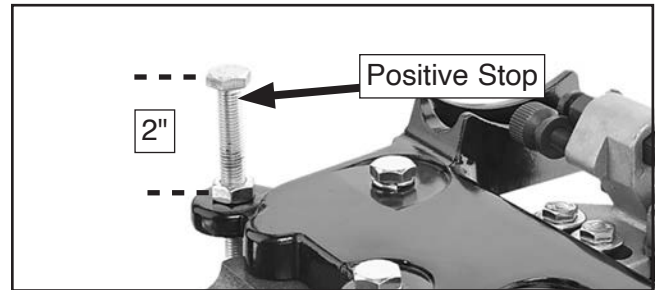

Figure 22. Positive stop installed.
3. Thread (1) M8-1.25 hex nut onto the M8-1.25 x 80 positive stop hex bolt, then thread the bolt into the trunnion support bracket so it protrudes 2" above the bracket (see **Figure 22**). This will allow the table to rest approximately level when it is installed.